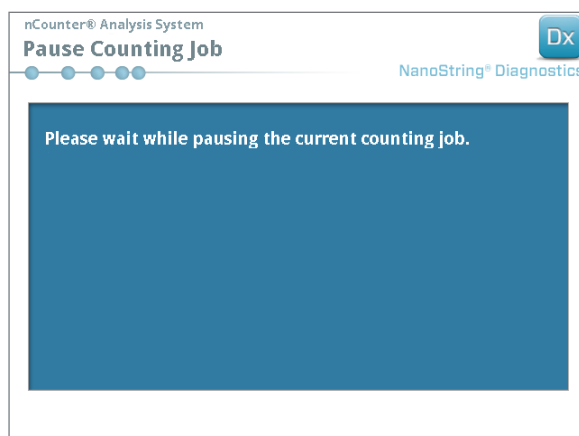

FIGURE 6.7: The 'Pause Counting Job' screen
6. To add a cartridge to a Digital Analyzer that is already counting, touch the **Pause** button on the 'Counting Cartridges' screen. It might take a few minutes for the Digital Analyzer to reach a suitable stopping point (**FIGURE 6.7**). The door will unlock when it does. Place the new cartridge in an empty slot, or replace a cartridge that has already been scanned. Touch the **Resume** button. The door should re-lock and resume counting.